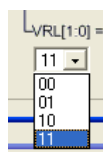
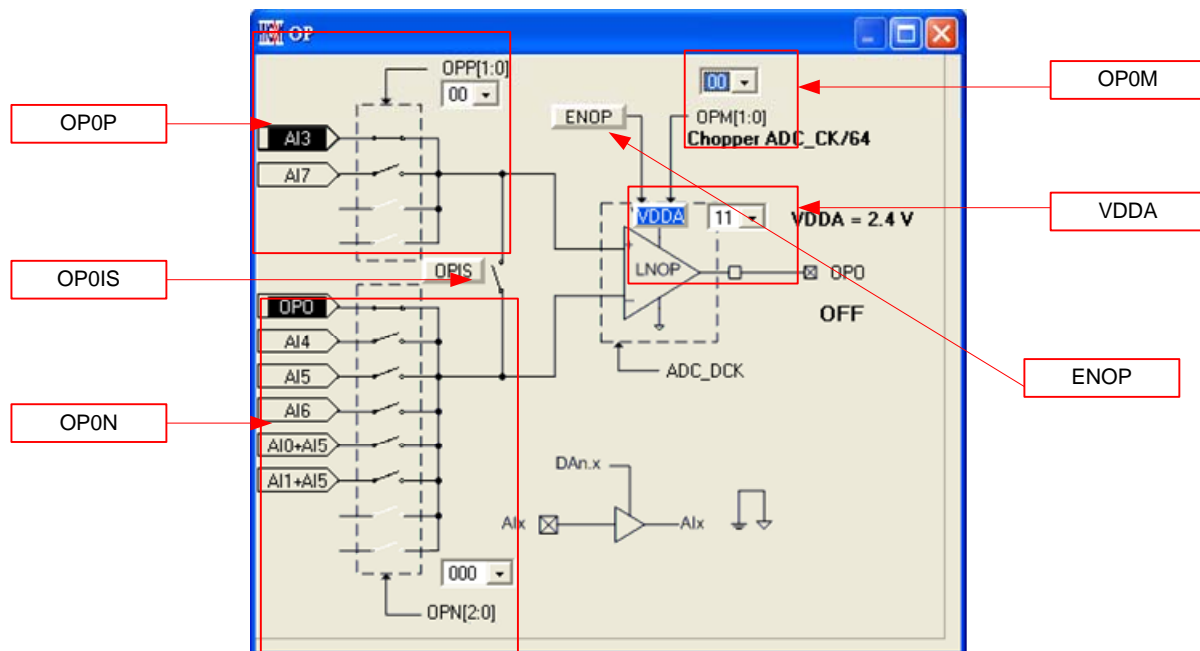

Figure 45
Figure 50
- (1) Click the network by mouse, INL can select the specified network.
- (2) Click the network switch by mouse, INL can select the specified network.
- (3) Click the mouse, a menu as Figure 45 will appear, and users can select the specified switch network.
(1) Click the network by mouse, VRL can select the specified network.
(2) Click the network switch by mouse, VRL can select the specified network.
(3) Click the mouse, a menu as Figure 45 Figure 50 will appear. Users can select the specified switch network.